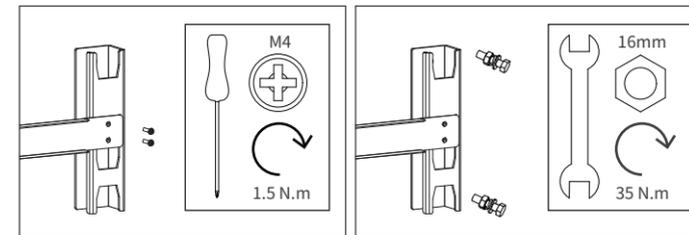

Fig 2.2 Wall-mounting
- Confirm that the installation holes position is correctly marked, the support is horizontal, punch holes at the marked position and drive the M10 bolts into the installation hole (see Figure 2.2).